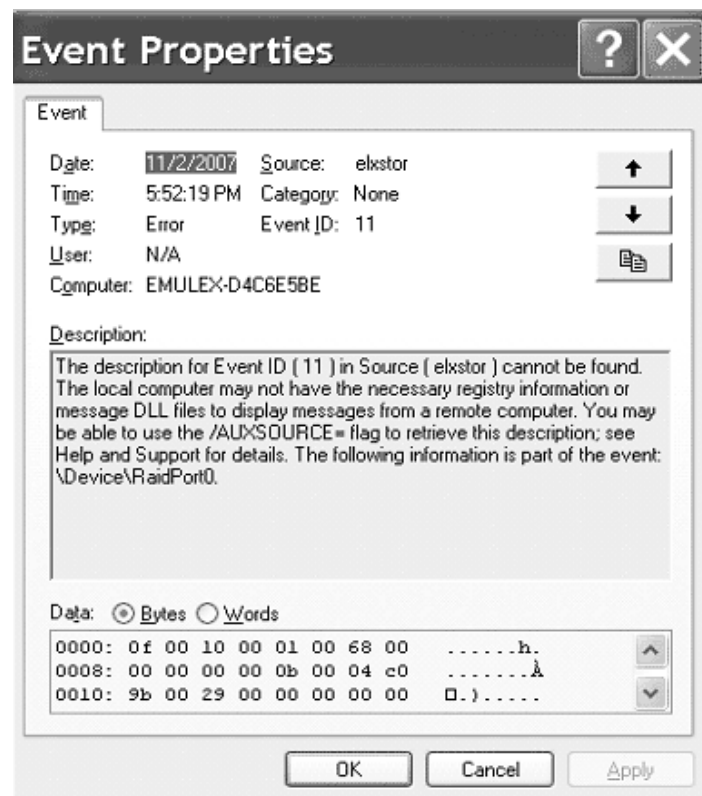

Figure 8: Event Properties
3. Examine the entry at offset 0x10 and Event ID 11. The Emulex event code is found in byte 0010 and supplementary data is in the byte offsets 0011 through 0013 (in example Figure 8, byte 0010 = 9b, byte 0011 = 00, byte 0012 = 29 and byte 0013 = 00).